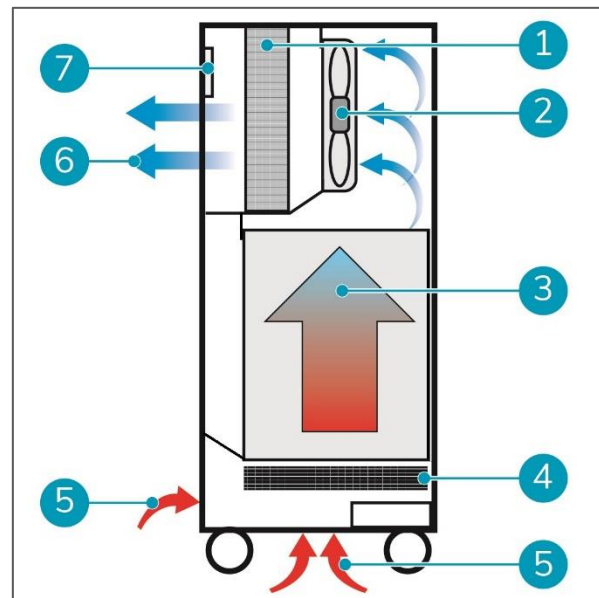

Figure 4
The polluted air enters the air inlets at the front and bottom of the unit (Figure 4, pos. 5).
The air passes through the custom designed pre-filter (Figure 4, pos. 4). The pre-filter filters out larger particles and heavy dust. The layers of activated carbon in the pre-filter provide basic absorption of volatile organic compounds.
The neutralization chamber (Figure 4, pos. 3) is equipped with complex and sophisticated technology (patented). A combination of UV light and other technologies, takes care of the volatile organic compounds and micro-biological contamination.
The decontaminated air finally passes through a high grade, custom made main HEPA filter (Figure 4, pos. 1). This filter ensures proper filtration of the smallest particles (even smaller than $0,3\mu$). The clean air leaves the unit through the air outlet (Figure 4, pos. 6) on the front of the ICon Pro unit.